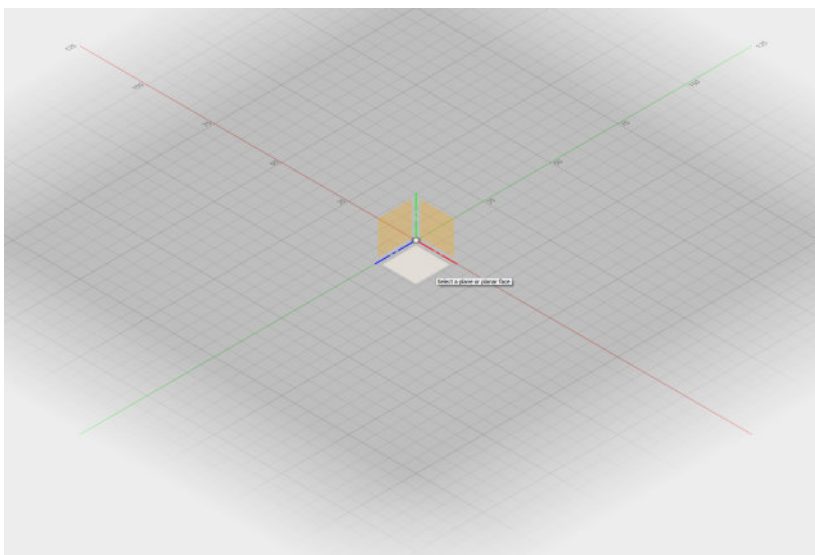

Figure 11-4. Selected plane in Fusion 360
2. Click Create Sketch. Your screen will turn a different color as shown in Figure 11-4. As you move your mouse around the screen, Fusion 360 will ask you what "plane" you want to create that new sketch on.